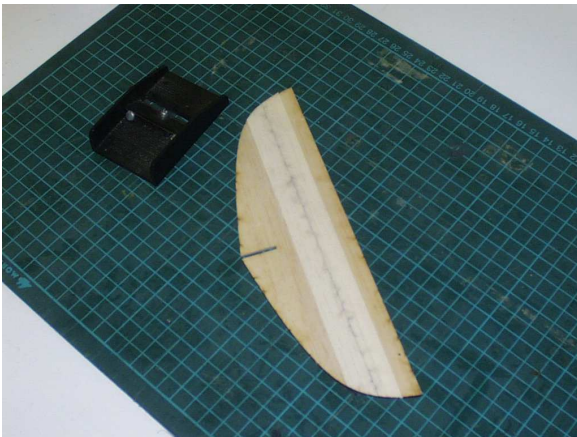

Figure 5.1: Horizontal stab and elevator joined with masking tape
- Join the elevator to the horizontal stab with masking tape (Figure 5.1)